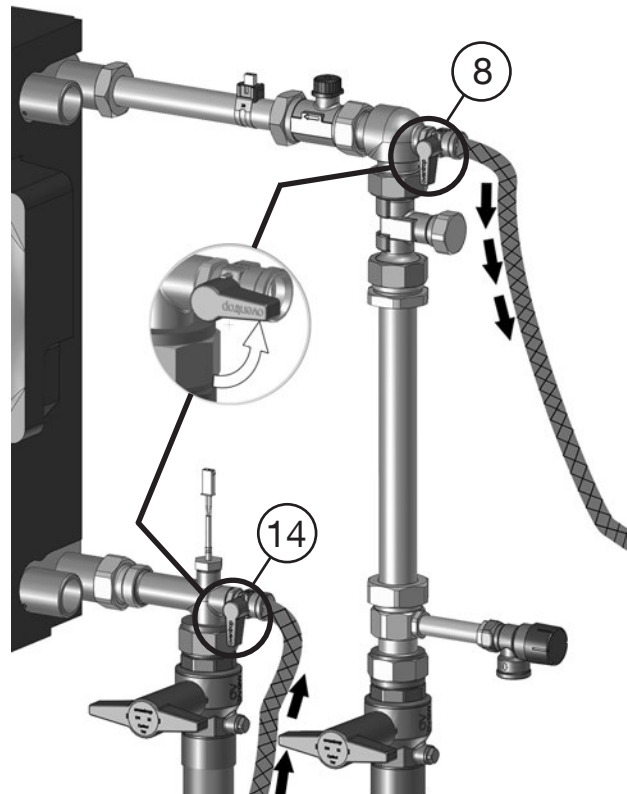

Fig. 5.3: Start the flushing process with anti-liming agent
- Open the ball valves (8 and 14) slowly to start the flushing process with anti-liming agent (Fig. 5.3).
- Close the upper fill and drain ball valve (8) (see Fig. 5.3).